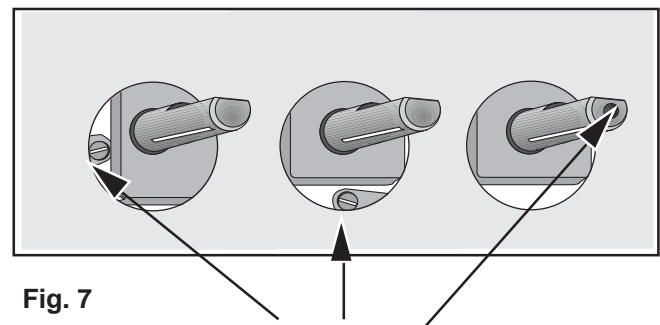

Fig. 7
4. With a thin screwdriver, adjust the by-pass screw (see Fig. 7). If changing from natural gas to LPG, completely tighten clockwise the screw, until a small regular flame is obtained.